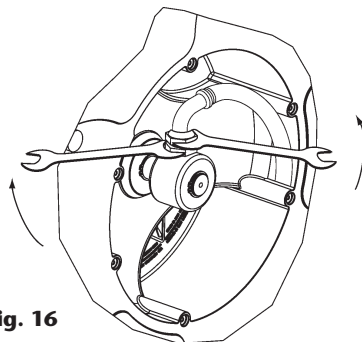

Fig. 16
2. Unscrew the nuts with two spanners (fig. 16).